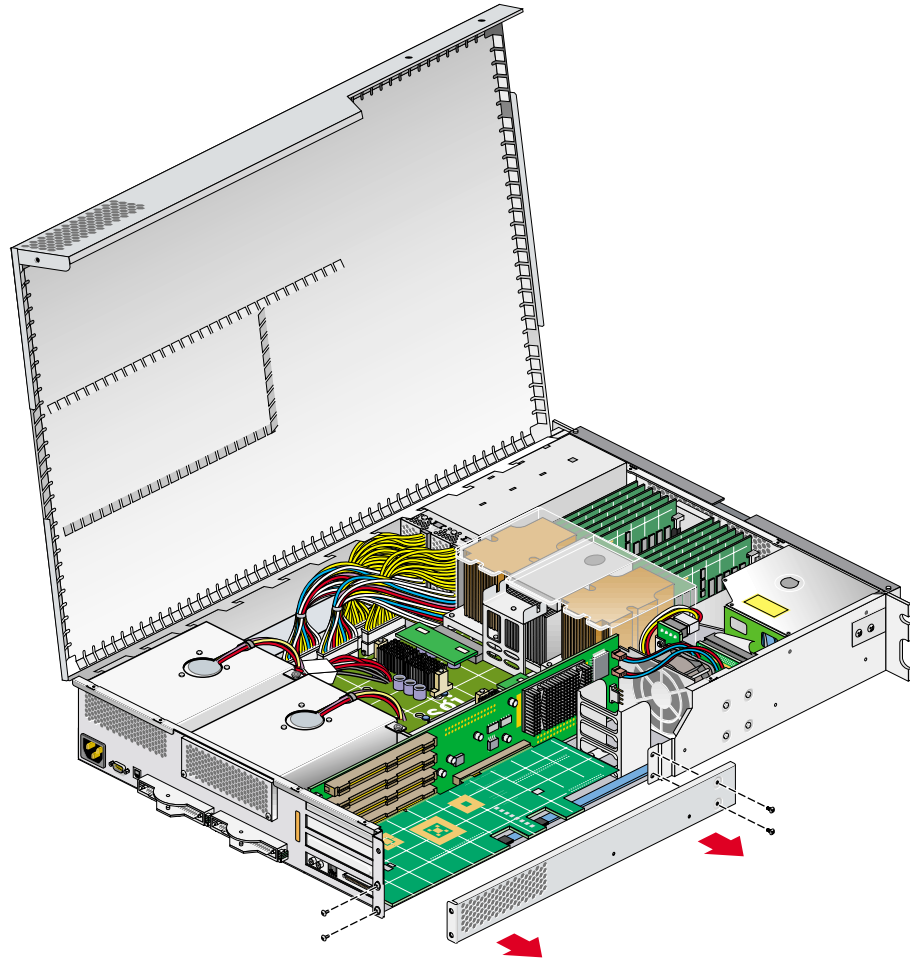

Figure 4-12 Removing the Lower PCI/PCI-X Support Bracket
10. If you are removing a card from one of the two lowermost slots, you must also remove the lower PCI/PCI-X support bracket that covers the two lowermost slots by unscrewing the four Phillips screws, as shown in Figure 4-12.